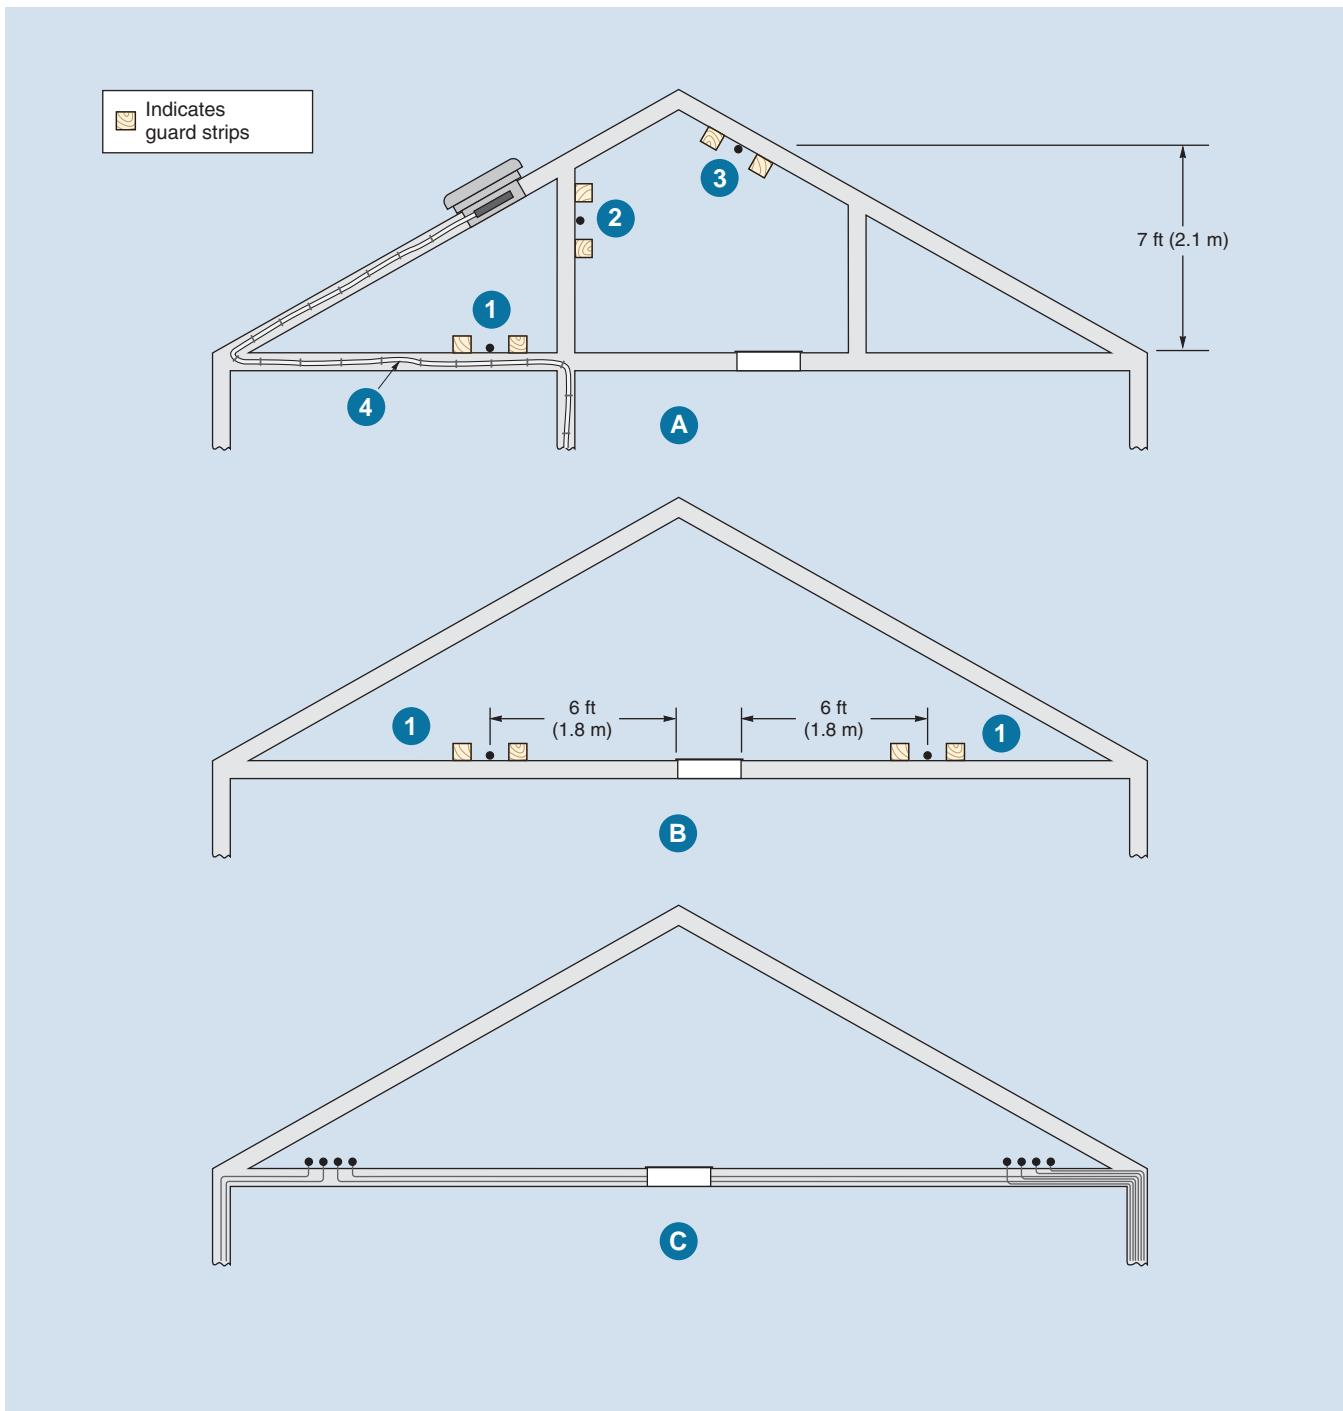

FIGURE 15-13 Protection of nonmetallic-sheathed cable or armored cable in an attic.
to the requirements of 334.23. This section refers the reader directly to 320.23, which describes how the cable is to be protected. See Figures 15-13 and 15-14.
In attics not accessible by permanent stairs or ladders, as in Figure 15-13(B), guard strips are required only within 6 ft (1.8 m) of the nearest edge of the scuttle hole or entrance.
Figure 15-13(C) illustrates a cable installation that most electrical inspectors consider to be safe. Because the cables are installed close to the point where the ceiling joists and the roof rafters meet,